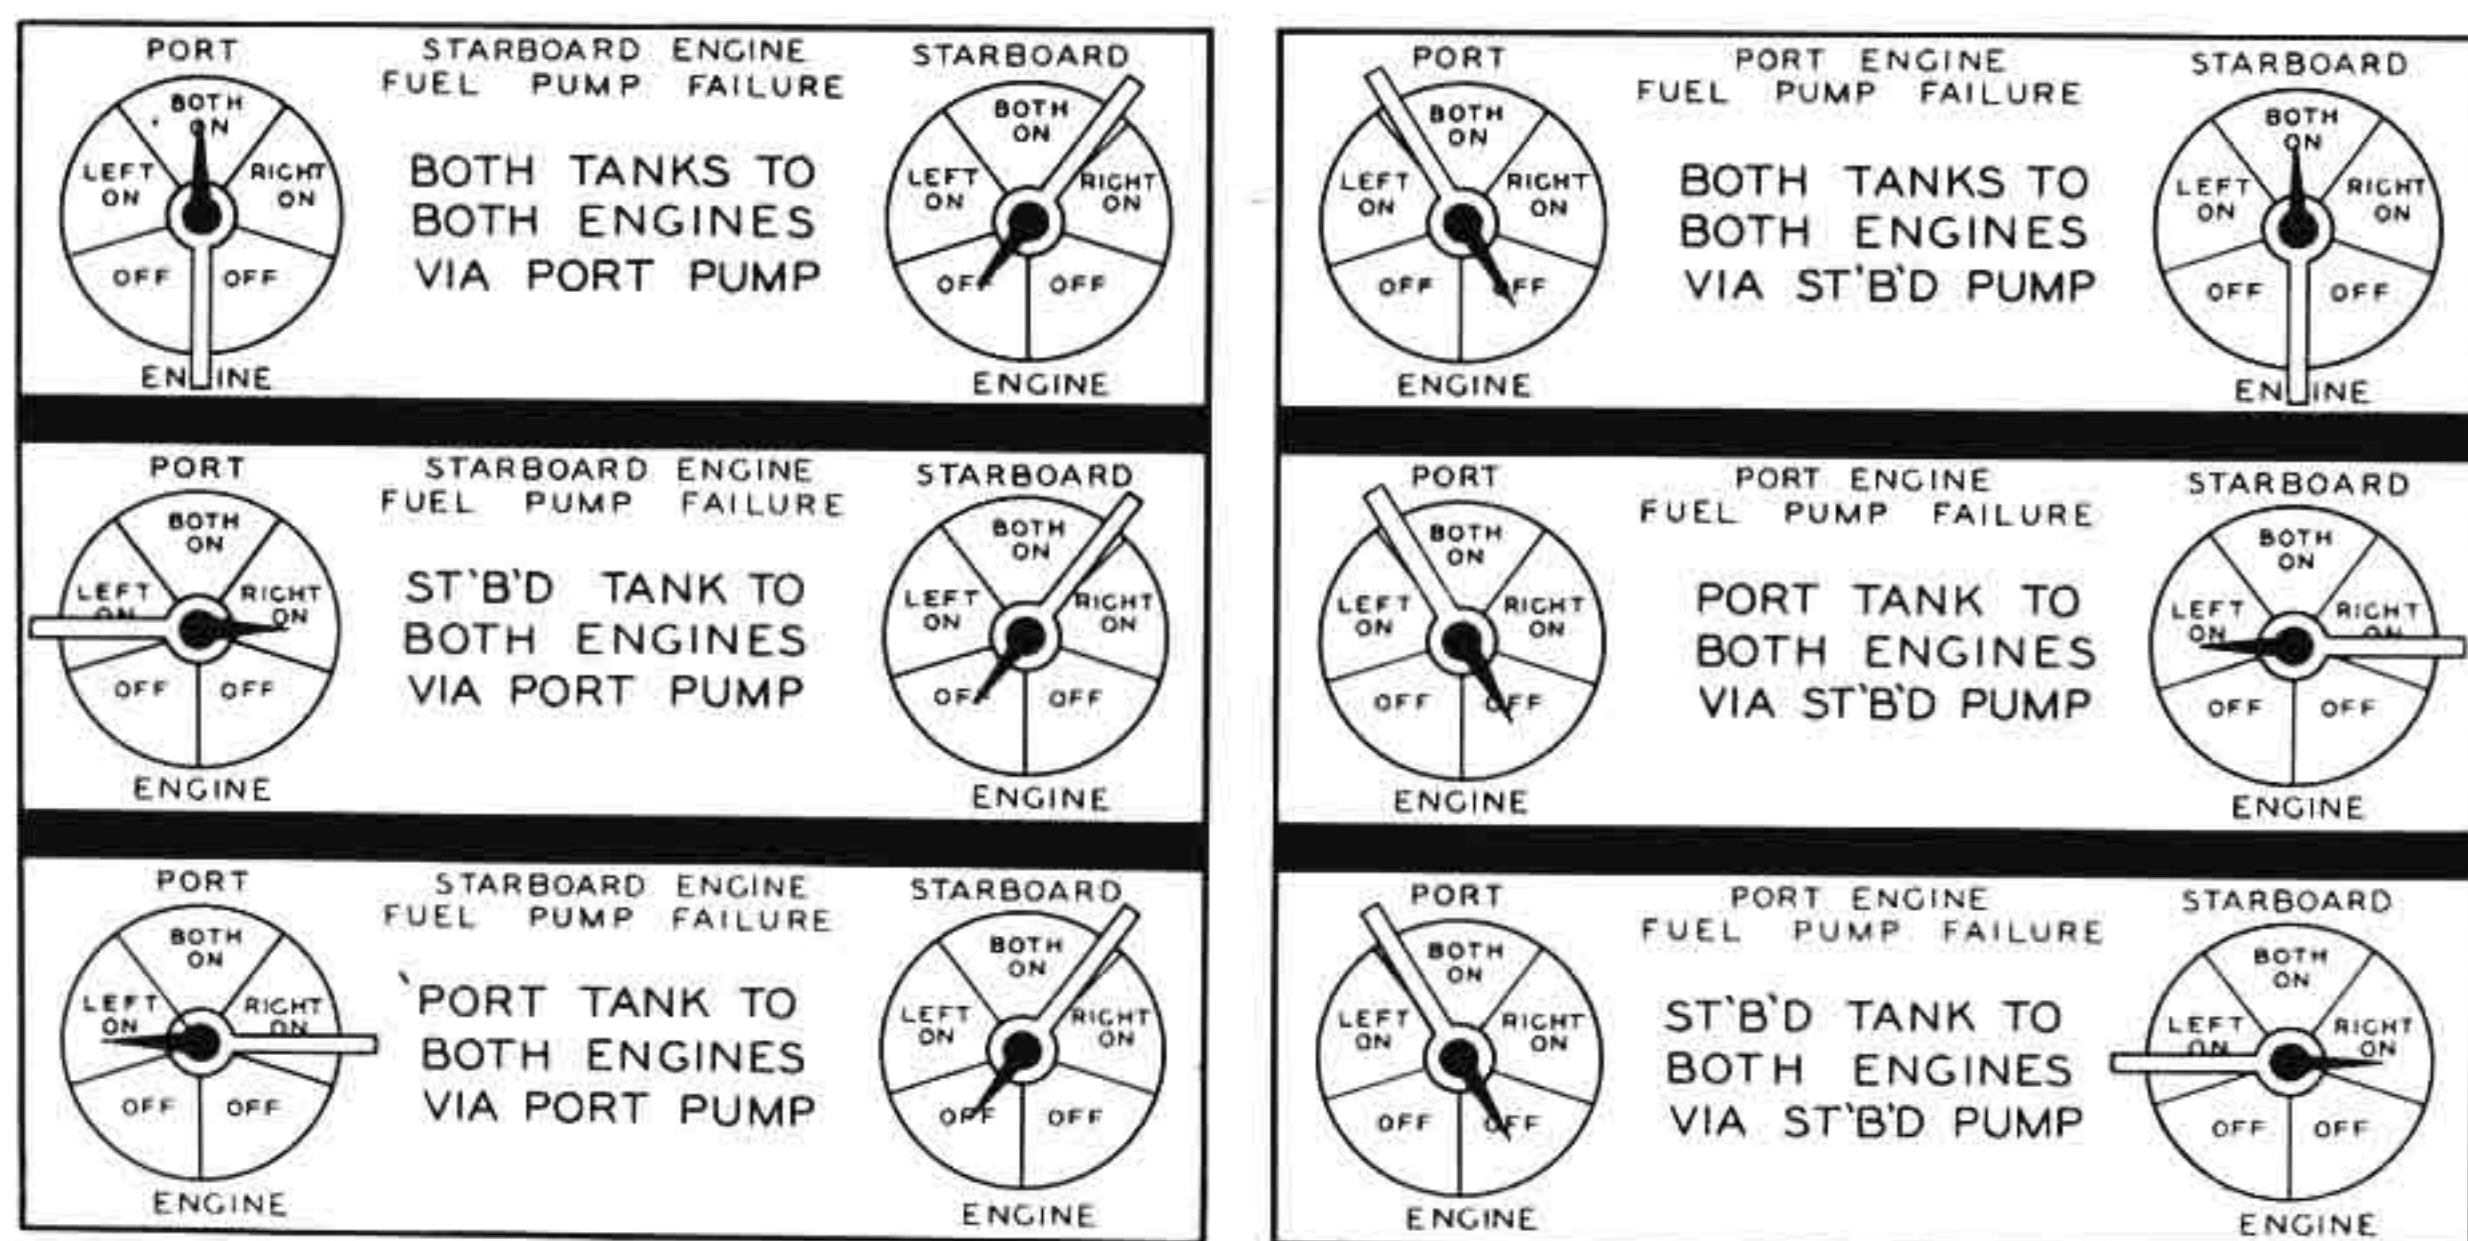

Figure 33—Fuel Selector Valve Position Chart
(3) **OPERATION OF FUEL SELECTOR VALVES.**—The various combinations of tank-to-engine fuel flow are shown on the Fuel Selector Valve Position Chart. (See figure 33.)
(4) **OPERATION OF CROSS-FEED SYSTEM.**—The various combinations of fuel selector valve setting with only one fuel pump operating and the cross-feed valve "ON" are shown on the Fuel Selector Valve Position Chart. (See figure 33.) The cross-feed valve should always be "OFF" except in case of engine or fuel pump failure.